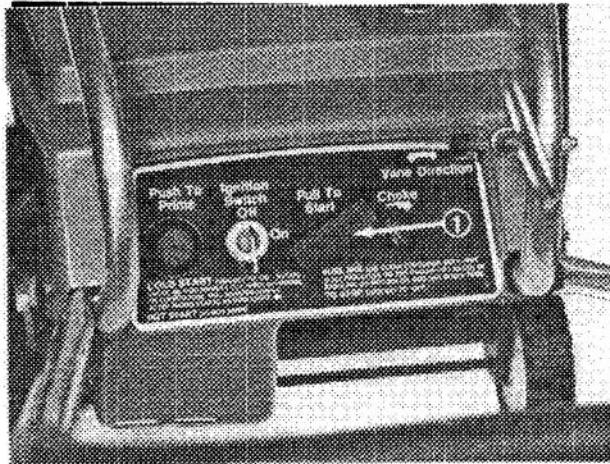

Figure 5
1. Primer (Fig. 5) — Push primer to pump a small amount of fuel into the carburetor, which allows the engine to be started easier in cold temperatures. **DO NOT USE PRIMER WHEN ENGINE IS HOT.**
2. Choke (Fig. 5) — Rotate choke clockwise to start engine. Because air intake into carburetor is restricted, engine receives a rich fuel mixture for easy starting.
3. Ignition Switch (Fig. 5) — Switch has ON and OFF position. Rotate key to ON to open the switch; then engine can be started by pulling recoil starter or pushing start button on S200 Electric Start. Rotate key to OFF to stop the engine.
6. Recoil Starter (Fig. 5) — Pull recoil starter to start the engine.
7. Vane Direction Control (Fig. 5 and 6) — Rotate vane control to direct discharge of snow to either side or straight forward.